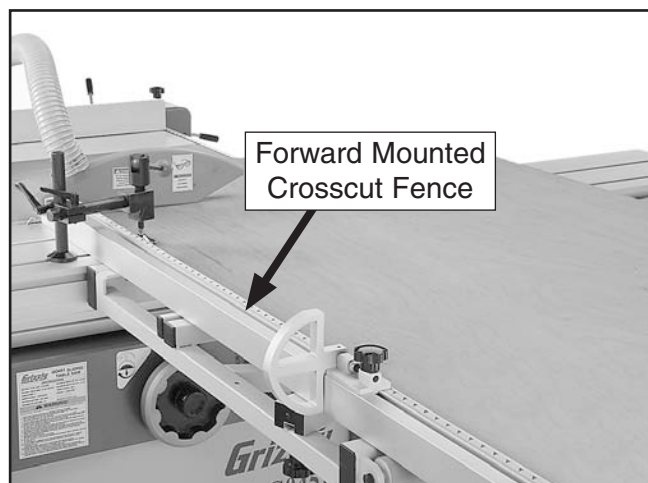

Figure 80. Crosscutting full size panel.
The Model G0451 can crosscut full size panels with the fence in the forward or rear position, although it is easier to load full size panels with the crosscut fence mounted in the forward position (see **Figure 80**).
4. Load the workpiece onto the table saw. The set up should look similar to **Figure 80**.